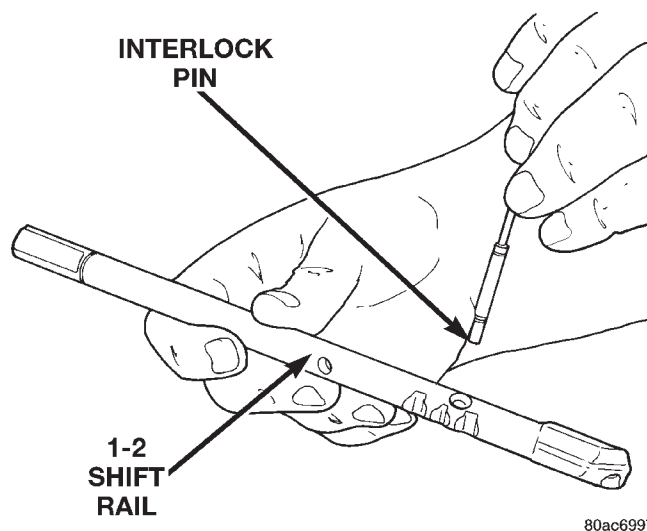

Fig. 73 Remove 1-2 Shift Rail Interlock Pin
(30) Remove snap-ring on 3-4 shift rail.
(31) Remove 1-2 shift rail from intermediate plate.
(32) Remove interlock pin from 1-2 shift rail (Fig. 73).